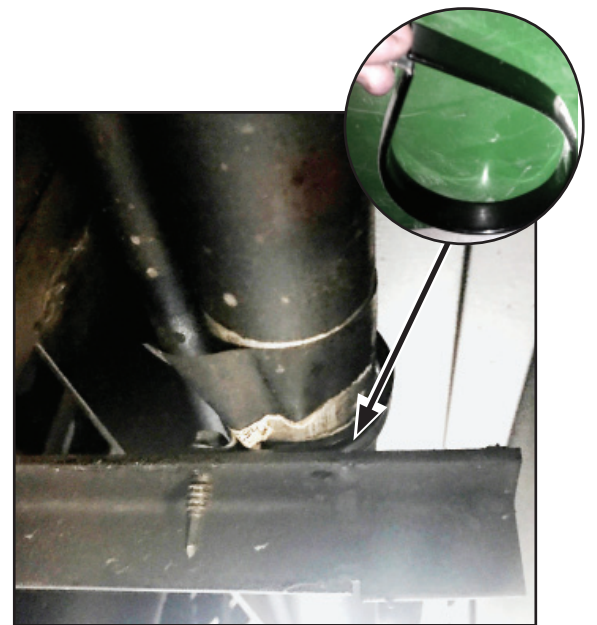

Figure 5
8. After proper clearance between the fuel fill and vent line and the spring shackle bolt has been achieved, secure the lines to the support bracket using an insulated clamp, REV Part # 10007781). Ensure the clamp goes around both tubes and is secured with a self-tapping screw to the support bracket. See Figure 5.